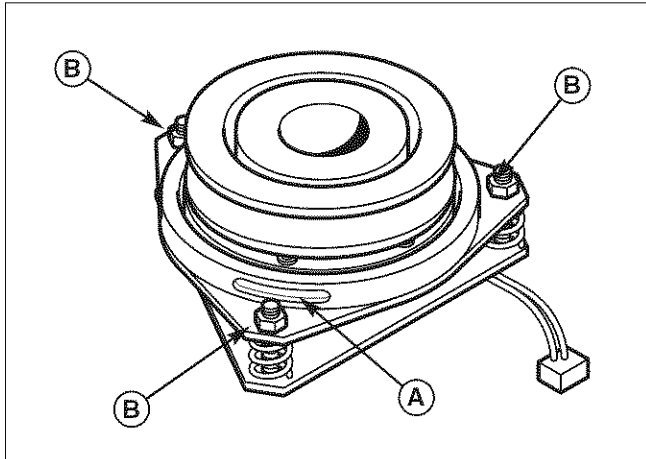

Figure 29. PTO Clutch Adjustment
2. See Figure 29. Note the position of the 3 adjustment windows (A) in the side of the brake plate and the nylock adjustment nuts (B).
4. Alternately tighten the adjustment nuts (B, Figure 29) until the rotor face and armature face just contacts the gauge.